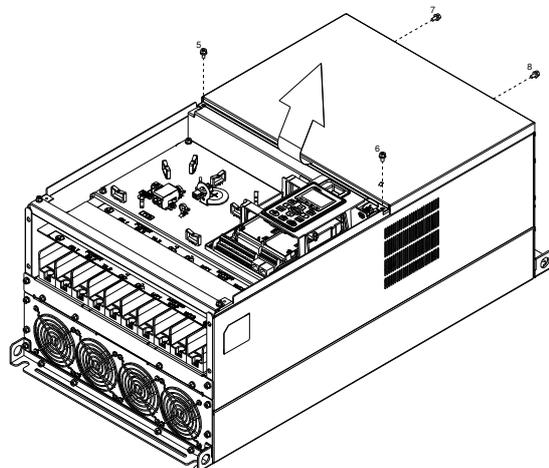

Figure 2
(2) Loosen the screw (figure 2) and removes the cover. Screw torque: 24~26kg-cm (20.8~22.6lb-in).